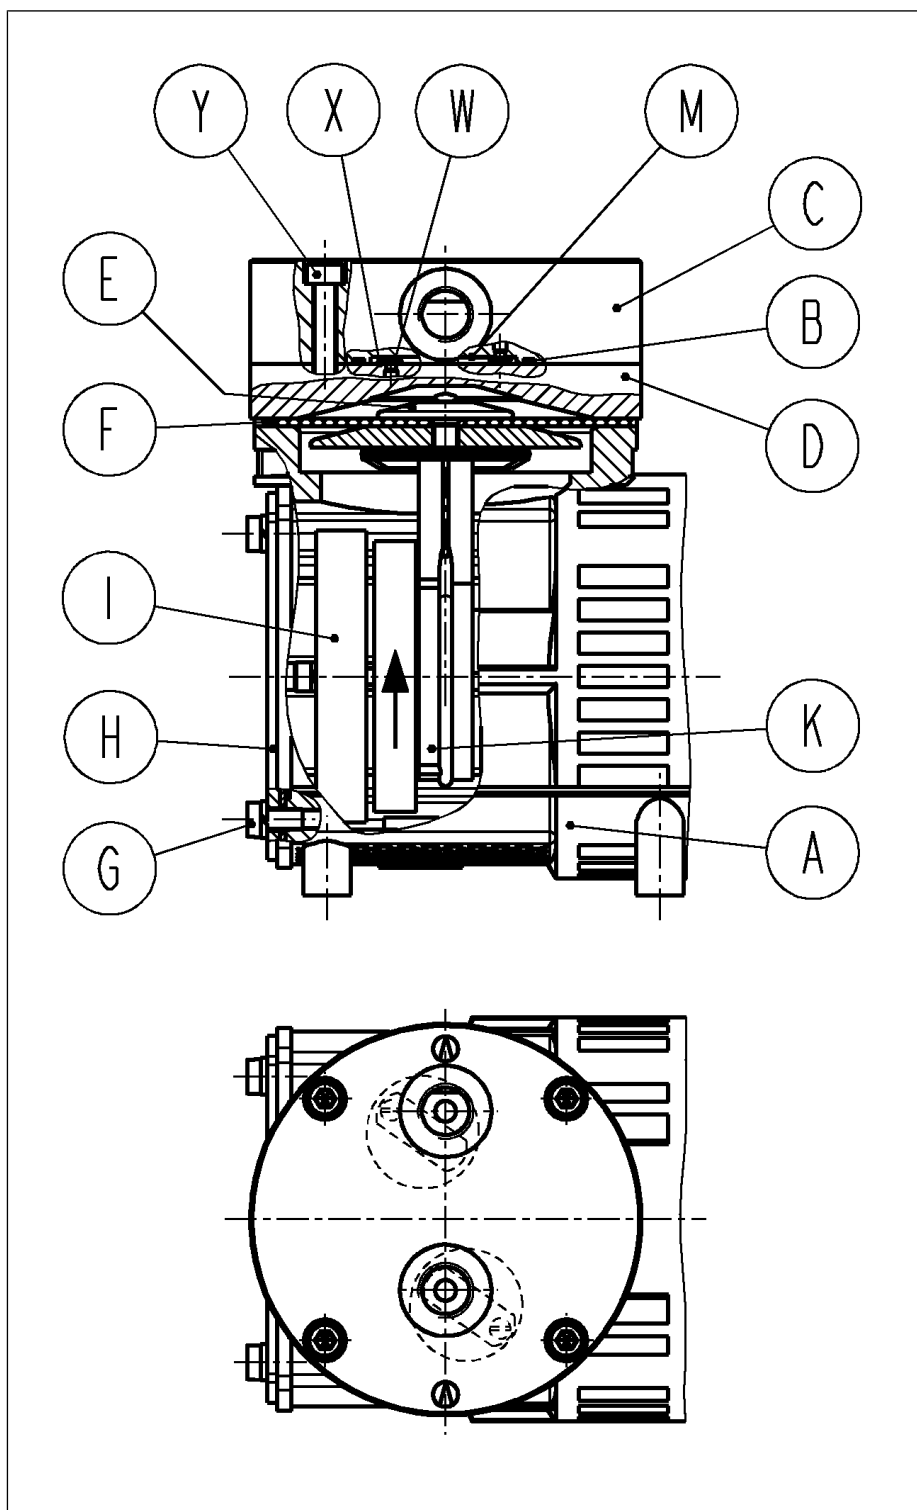

Fig. 5 Pump parts for pump models with smooth heads and reed valves (stainless steel, symbolic)
**According to Fig. 5
The following item numbers refer to Fig. 5.